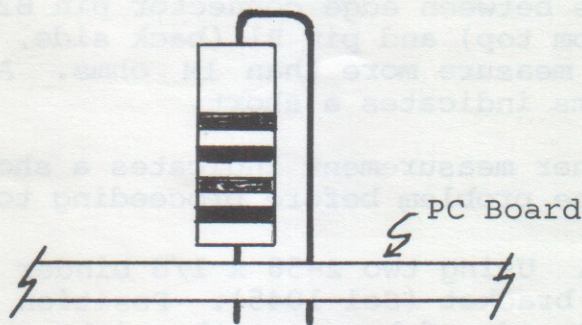

Figure 4-1. R1 through R4 installation.
- (✓) Step 2. Install the following resistors in the indicated locations. Install these resistors vertical to the board as shown in Figure 4-1, solder and trim.